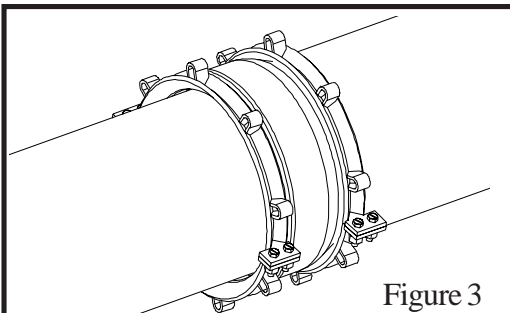

Figure 3
- Assemble Bell Ring onto pipe. (See Figure 3)